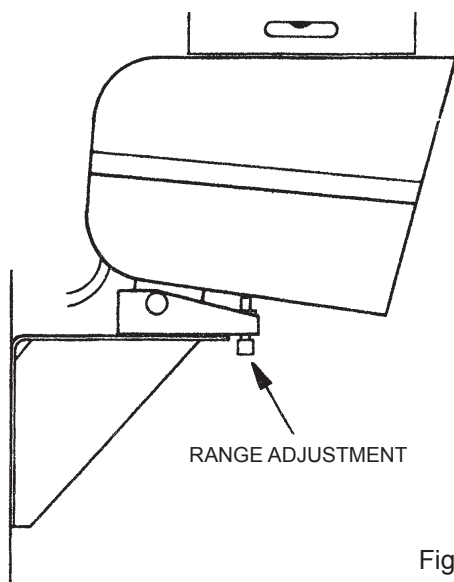

Fig. 3
The top surface of the head unit should be parallel with the ground. If the ground is level a spirit level may be used to set the head ready for walk-testing. (See Fig. 3+4)
- Assuming level horizontal ground, use a spirit level as shown in Fig. 3.